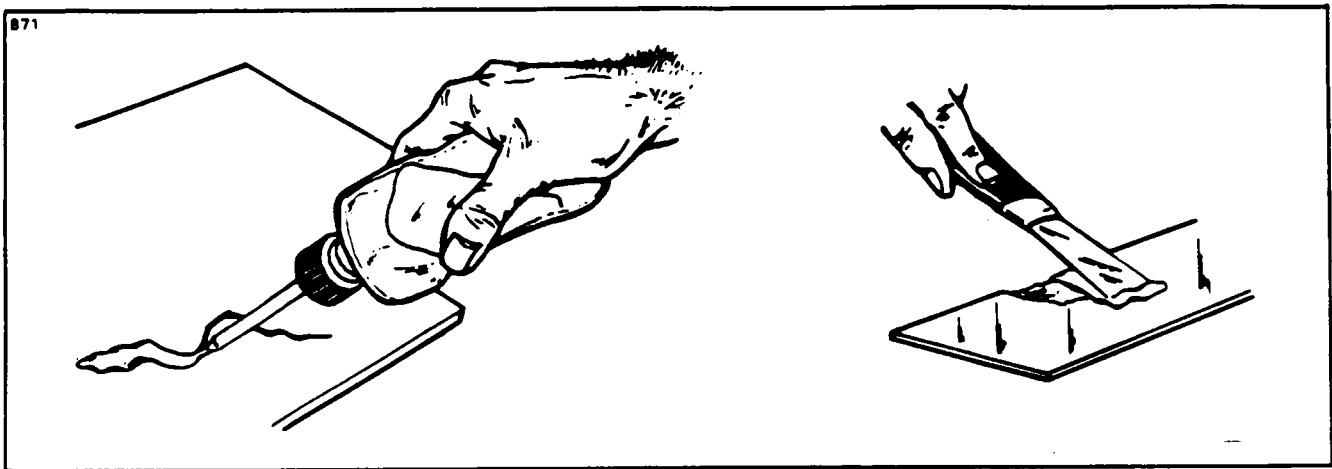

Figure 51-3. Deep Scratches, Shallow Nicks and Small Holes
3. Deep Scratches, Shallow Nicks and Small Holes: (Less than 1 inch in diameter.) (Refer to Figure 51-3.)